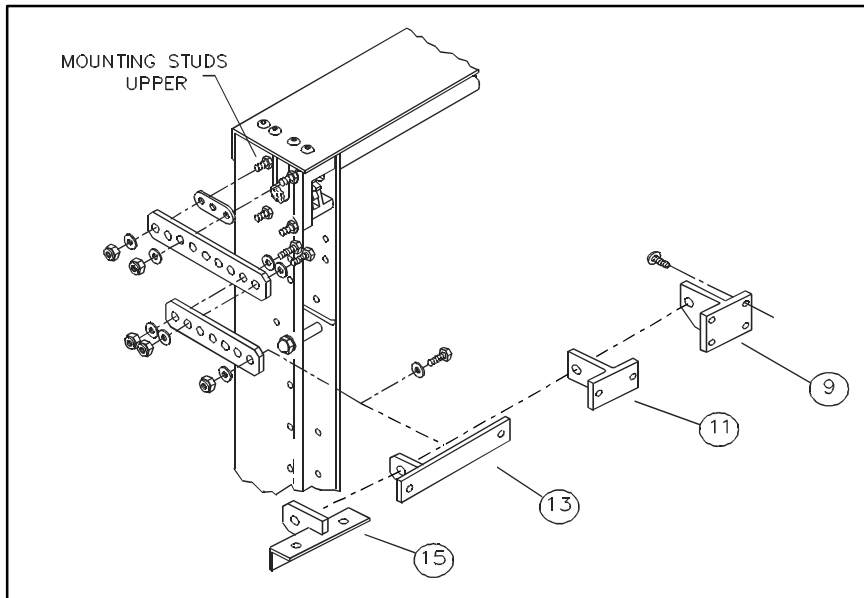

FIGURE 2-14: INTERMEDIATE AND MOUNTING BRACKET INSTALLATION
- d. For all vans EXCEPT RIGHT-SIDE of Chevrolet Astro or GMC Safari side with sliding door installation, refer to **Figure 2-14**. With 5/16-18 hex bolts, 5/16 flat washers, and 5/16-18 self-locking nuts, loosely install intermediate brackets to end of extension brackets.